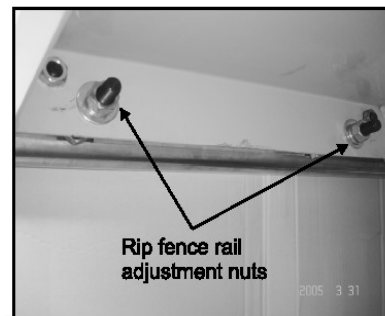

Fig. 15
11. Adjust the height of the rip fence rail, then tighten all of the nuts against the table showed (Fig. 15)